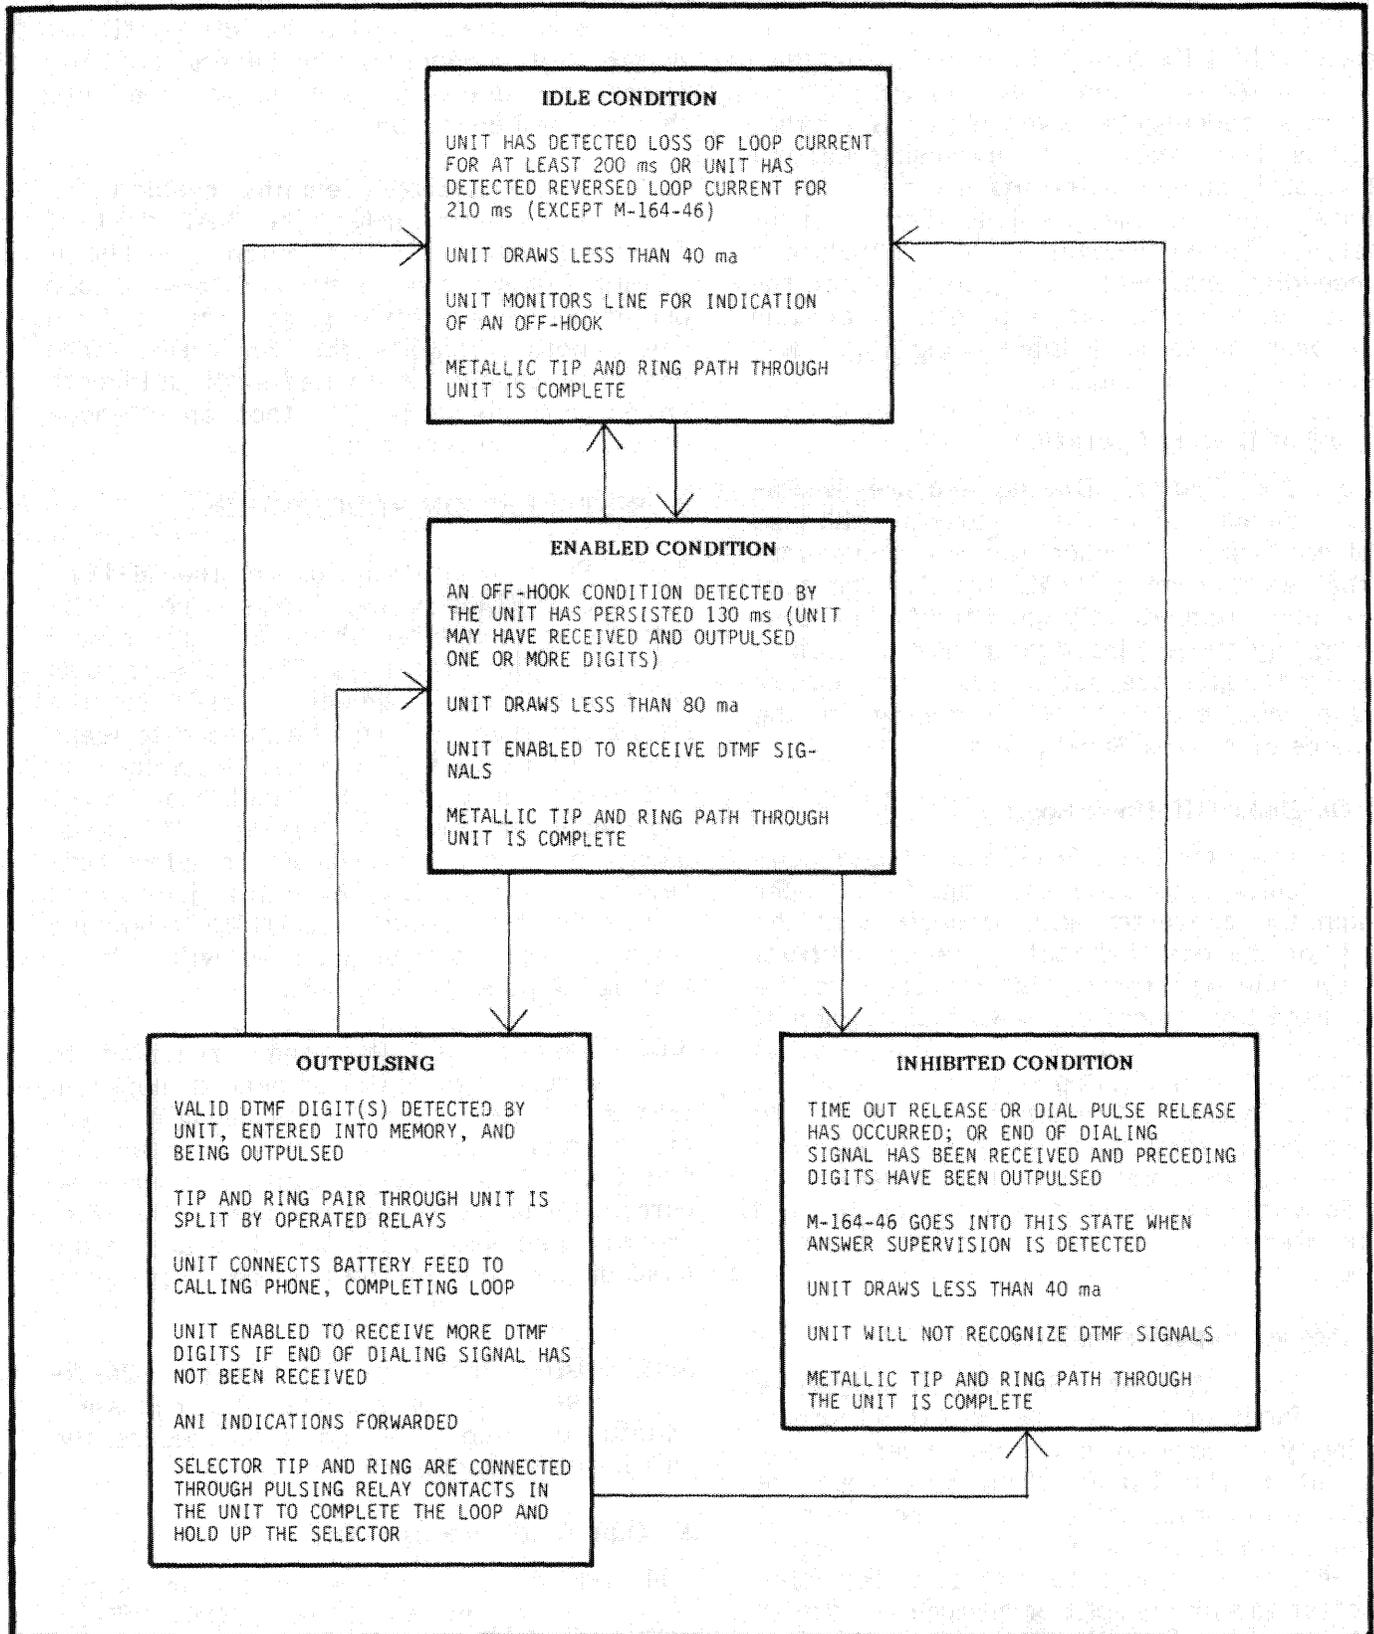

Figure 6 State Diagram
5.04 Once enabled the M-164 remains enabled unless inhibited by the occurrence of either the End of Dialing release or the Time Out release. The unit can then be enabled again only by first being returned to the idle condition. See figure 6. It can be returned to the idle condition from either the enabled or inhibited condition by recognizing either Answer Supervision or an on-hook condition. Answer Supervision inhibits an M-164-46 rather than returning it to the idle condition.